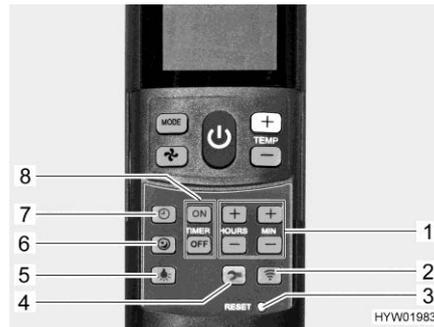

Fig. 124 Remote control with setting buttons (air conditioning unit)
Activating soft-start: ■ Press the soft-start button (Fig. 124,6). The fan then runs at low speed in cooling mode, which makes it especially quiet.
Setting the time: ■ Press the time button (Fig. 124,7).
■ Set the hours and minutes with the buttons (Fig. 124,1).
Programming the switching on time: ■ Press "ON" button (Fig. 124,8).
■ Press the buttons for setting the time (Fig. 124,1) until the desired time span until switch-on is reached.
■ Press "ON" button (Fig. 124,8).
Programming the switch-off time: ■ Press "OFF" button (Fig. 124,8).
■ Press the buttons for setting the time (Fig. 124,1) until the desired time span until switch-off is reached.
■ Press "OFF" button (Fig. 124,8).
Deactivating the timer: ■ Press the "ON" or "OFF" button (Fig. 124,8) again.
Switching on the lighting: ■ Press the light button (Fig. 124,5). The light is switched on at the last set dimming level.
Dimming the lighting: ■ Press the light button (Fig. 124,5) and keep it pressed until the desired brightness is reached.
Switching off the lighting: ■ Press the light button (Fig. 124,5).
▷ The Setup button (Fig. 124,4) is used to connect the remote control with the air conditioning unit during first set-up.